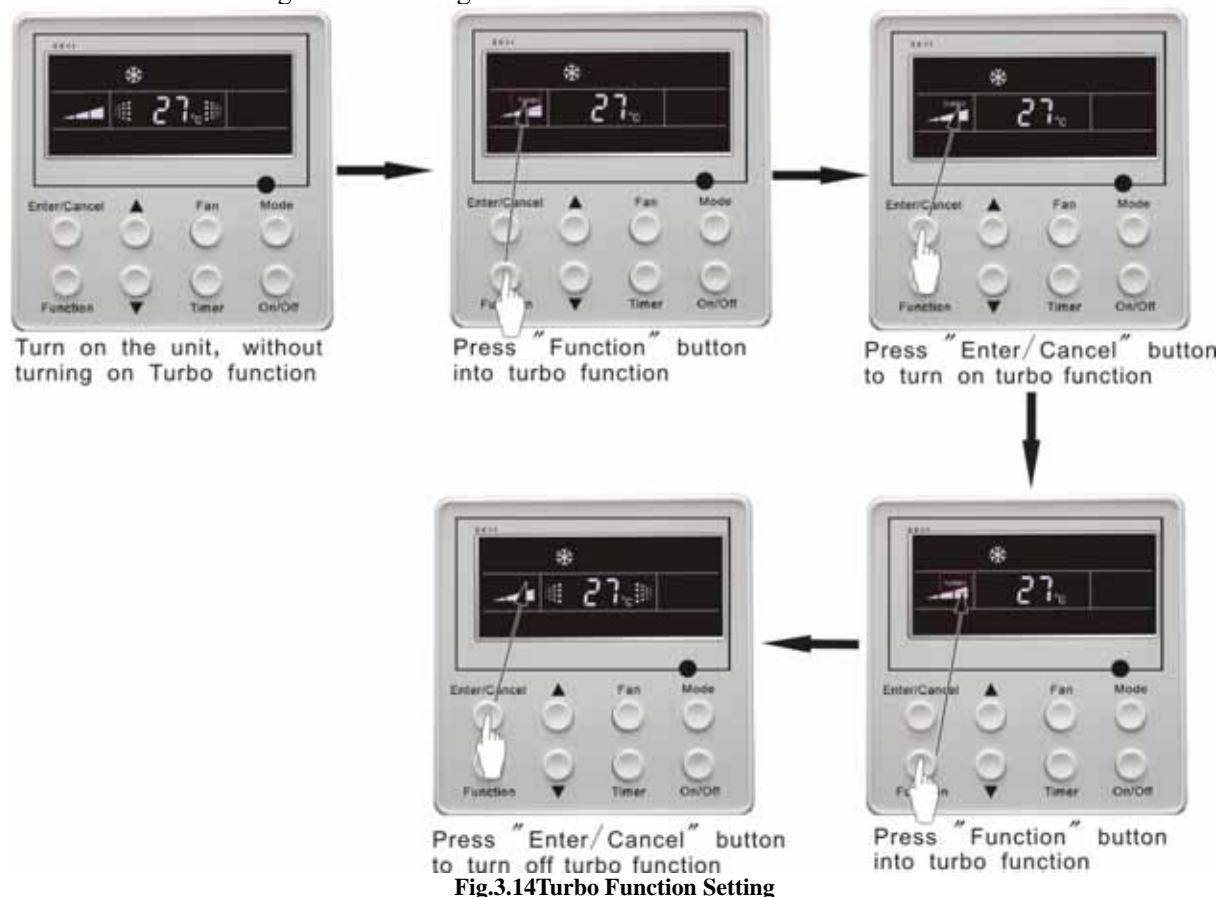

Fig.3.14 Turbo Function Setting
**TURBO** function setting is shown in Fig3.14: